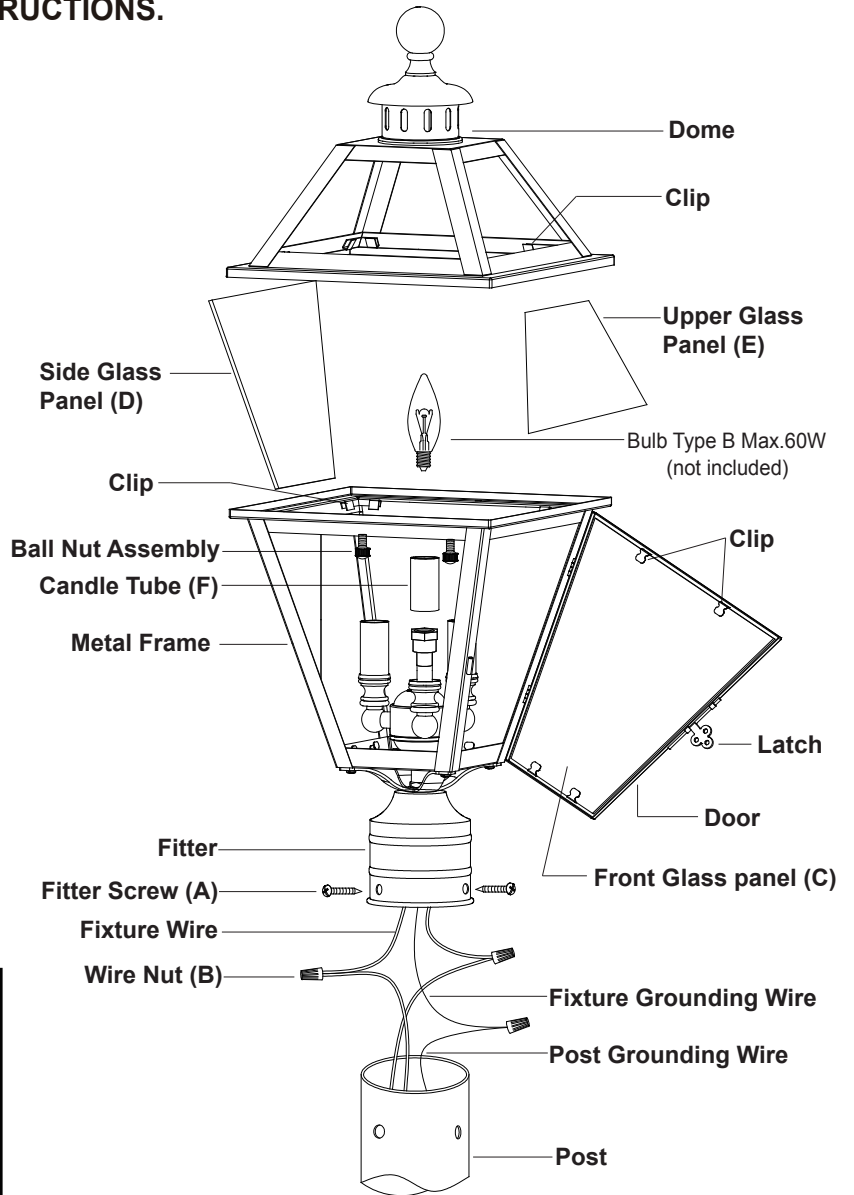

Fig. 1
1. Take a side glass panel and gently place the side glass panel into the metal frame in place, then pressing the clips of the metal frame to secure the side glass panel. (See Fig. 1)